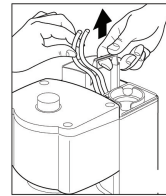

FIGURE 2
4. Remove the tank cover. Then remove the water tank by lifting it upwards and, at the same time, lift the intake tubes. (Figure 2) NOTE: The tank may also be filled without removing it, simply by pouring water into it directly from a container.